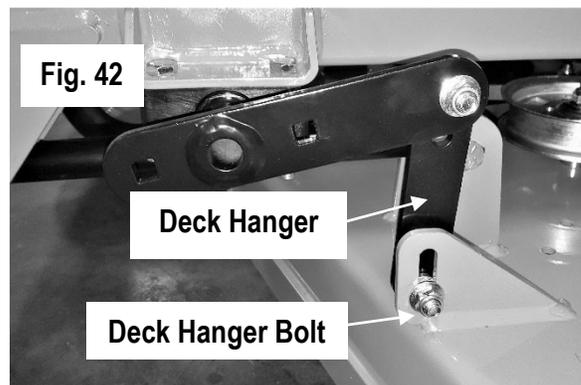

Fig. 42
4. Using a pair of 9/16" wrenches, loosen all deck hanger bolts on the top of the deck. These are the lower bolts in the slots of the deck as shown in Fig. 42. Do not loosen the upper bolts that attach the deck hangers to the actuator lift bars.